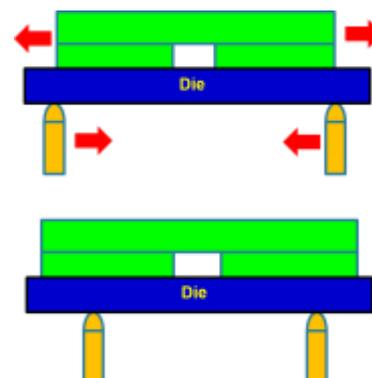

Fig. 4. Design improvement.
- On the design aspect, the ejector pin could be improved by reducing the pin-to-pin distance (moving the pins closer) and increasing the rubber tip coverage area such that the pin contact is within it as illustrated in Fig. 4.